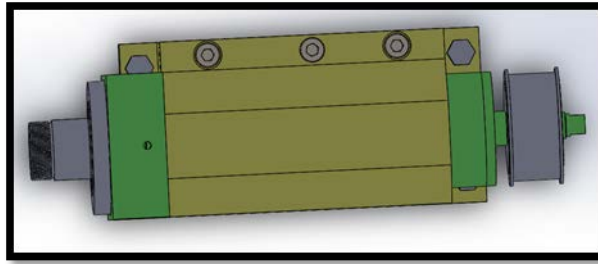

Fig 9.1
9. After measuring, if the parallelism of spindle is slightly down, which looks like Fig 9.1, loosen 3 screws, (Part No. 1-1 / 1-3 / 1-4) (Do not loose screws of Part No.1-2), and use copper bar to slightly kick and adjust it. (Recommendation is under 0.01mm)